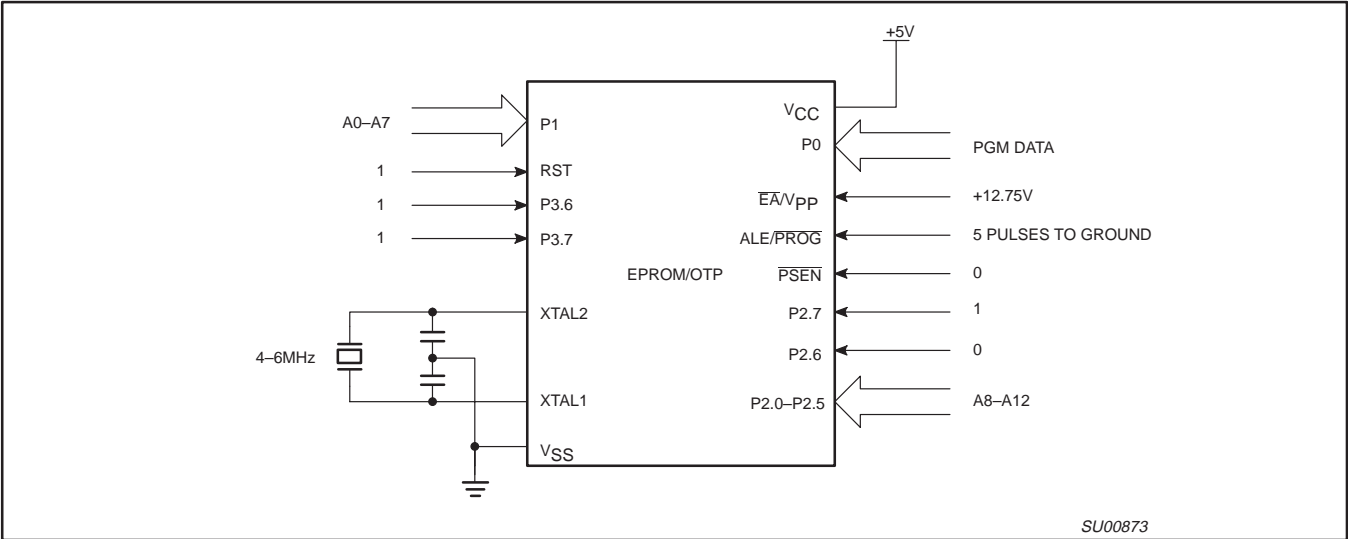
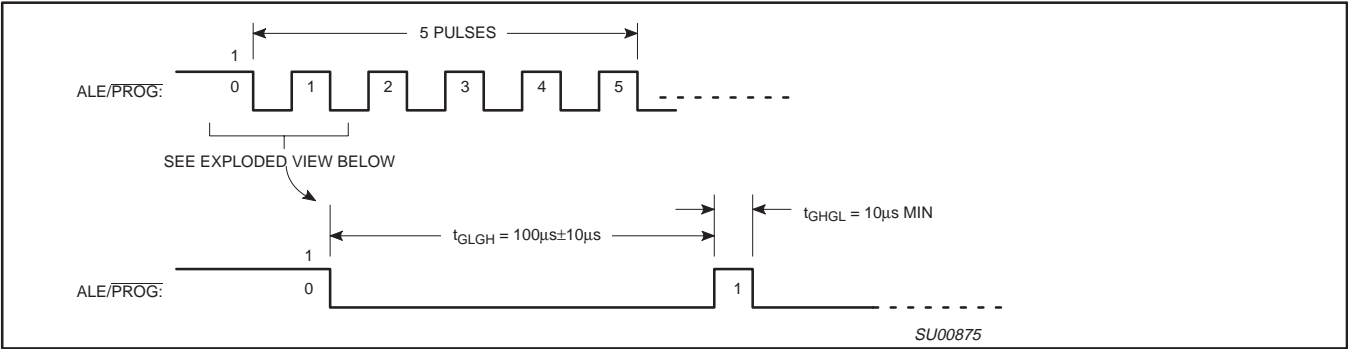
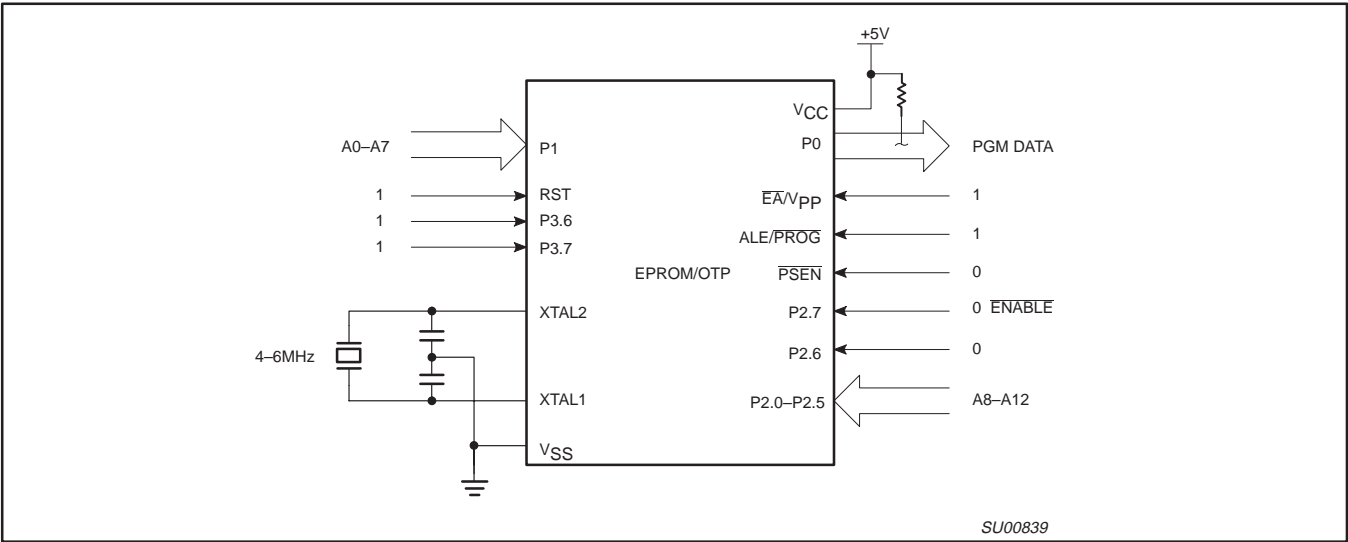

Figure 26. Programming Configuration
Figure 27. PROG Waveform
Figure 28. Program Verification
Table 8 shows the logic levels for reading the signature byte, and for programming the program memory, the encryption table, and the security bits. The circuit configuration and waveforms for quick-pulse programming are shown in Figures 26 and 27. Figure 28 shows the circuit configuration for normal program memory verification.
The setup for microcontroller quick-pulse programming is shown in Figure 26. Note that the device is running with a 4 to 6 MHz oscillator. The reason the oscillator needs to be running is that the device is executing internal address and program data transfers.
The address of the EPROM location to be programmed is applied to ports 1 and 2, as shown in Figure 26. The code byte to be programmed into that location is applied to port 0. RST,  $\overline{PSEN}$  and pins of ports 2 and 3 specified in Table 8 are held at the 'Program Code Data' levels indicated in Table 8. The ALE/PROG is pulsed low 5 times as shown in Figure 27.
If security bits 2 and 3 have not been programmed, the on-chip program memory can be read out for program verification. The address of the program memory locations to be read is applied to ports 1 and 2 as shown in Figure 28. The other pins are held at the 'Verify Code Data' levels indicated in Table 8. The contents of the address location will be emitted on port 0. External pull-ups are required on port 0 for this operation.
- \* FOR PROGRAMMING CONFIGURATION SEE FIGURE 26.
FOR VERIFICATION CONDITIONS SEE FIGURE 28.